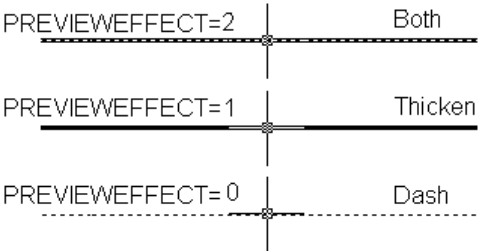

Figure 2-27 The selection preview with the **Both**, **Thicken**, and **Dash** radio buttons selected
*In AutoCAD, the entities are highlighted when you move the cursor over them. This feature is known as the selection preview. To set the selection preview, choose the **Visual Effects Settings** button in the **Selection Preview** area of the **Selection** tab of the **Options** dialog box; the **Visual Effect Settings** dialog box will be displayed. This dialog box is used to set the type of appearance during highlighting. The preview will be a dashed line if the **Dash** radio button is selected. The preview will be thickened line, if the **Thicken** line radio button is selected. If the **Both** radio button is selected, the preview will be dashed thickened line. The selection preview of the different lines is shown in Figure 2-27.*